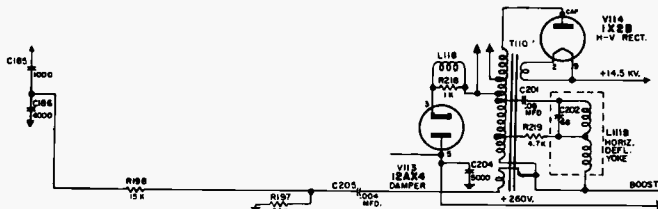

Fig. 1
10. There were a few pilot run chassis 472 Code A and 473 Code A which were wired as shown in Figure 1. The differences between these and later production chassis are (1) the bottom winding of the transformer, (2) the value of R198, and (3) the use of R197 and C205.